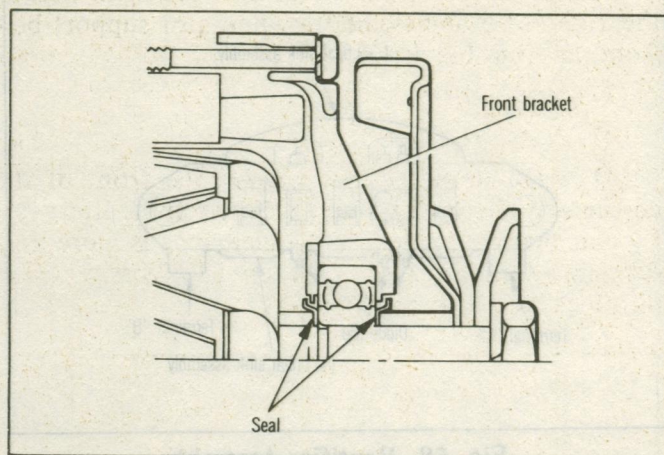

Fig. 63 Assembling Seals
(1) Install seals before and behind the front bearing as shown in Fig. 63.